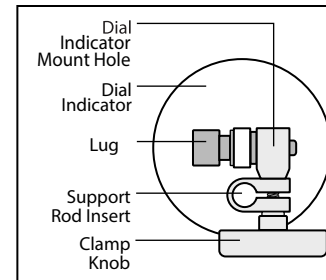

Fig. 2
**1. TO FIX A MEASURING TOOL BY THE LUG** (See Fig.2)